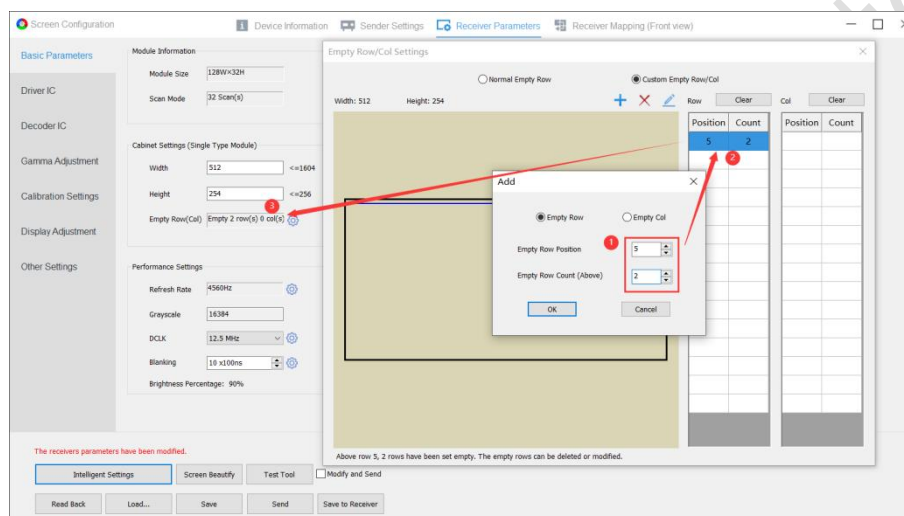

Fig 6.3.1.8 Empty row/col settings
Step 2: Modify the width and height of the cabinets, as shown in Fig 6.3.1.8.